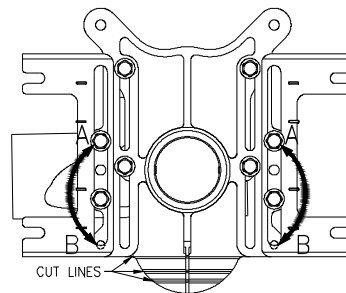

Fig. 4a
4. Factory faceplate/feet assembly is set for a 5 ½" rough-in height. Locating featuring C (See Fig. 4) on each foot identifies at 7 ½" rough-in height, commonly used for ADA applications. To adjust the rough-in height, loosen the feet bolts and set the top two bolts to the desired height (adding additional height for tiling where required). For the highest position, swap bolts from A to B location. See Fig. 4a. Secure bolts using wrench (25-35 lb-ft of torque).